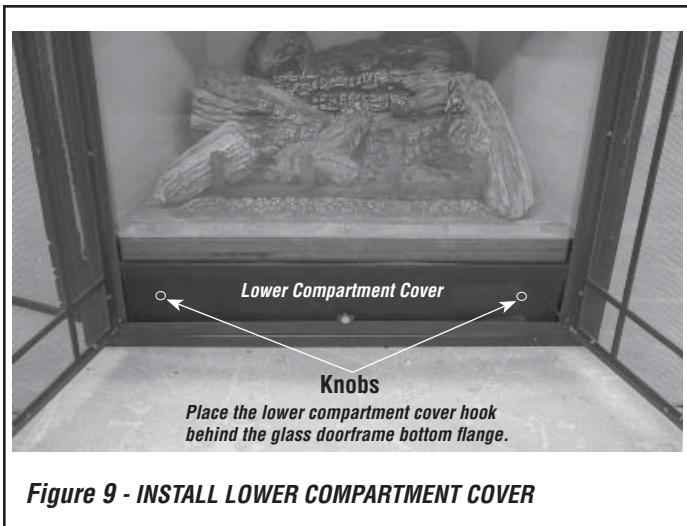

Figure 9 - INSTALL LOWER COMPARTMENT COVER
- 9.** Install the lower compartment cover per instructions in **Figure 9**.
- 11.** Close both doors as shown in **Figures 9 & 10**.